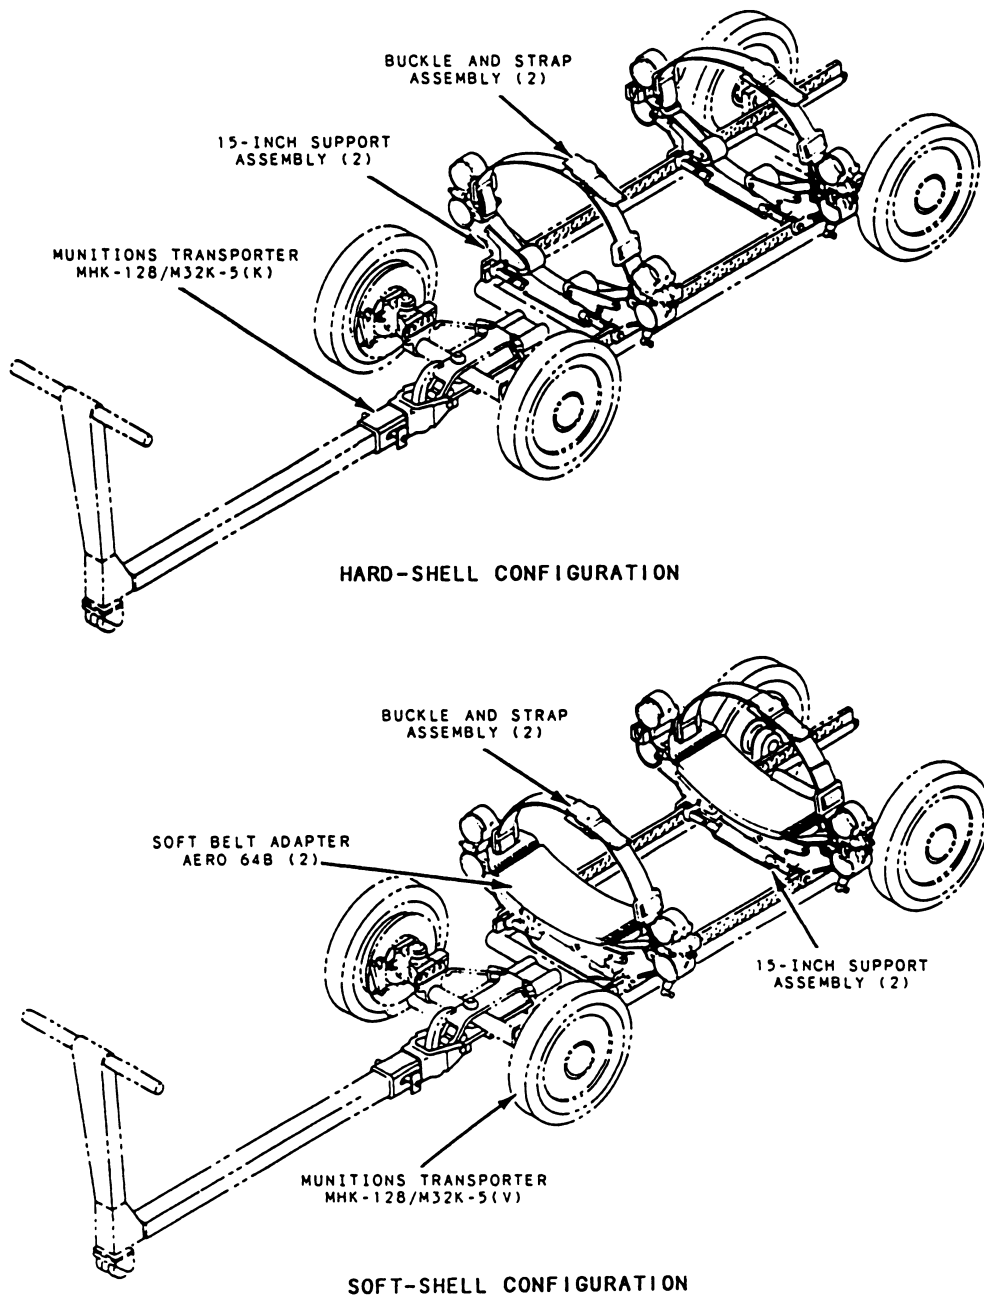

Figure 10-37.—Single-weapon configuration.
Various configurations of the ADK-362/A/B/M32K-5(V) multiple weapon adapter are to carry stores having different lengths, diameters, and weights. The physical data are listed in table 10-2. The single-weapon configuration (fig. 10-37) is